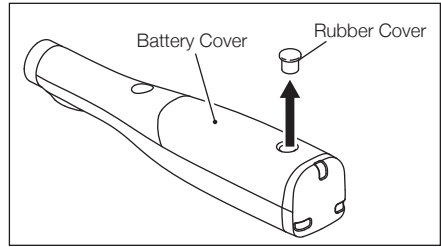

Fig. 13
2. Remove the rubber cover from the battery cover with a thin flathead screwdriver. (Fig. 13)